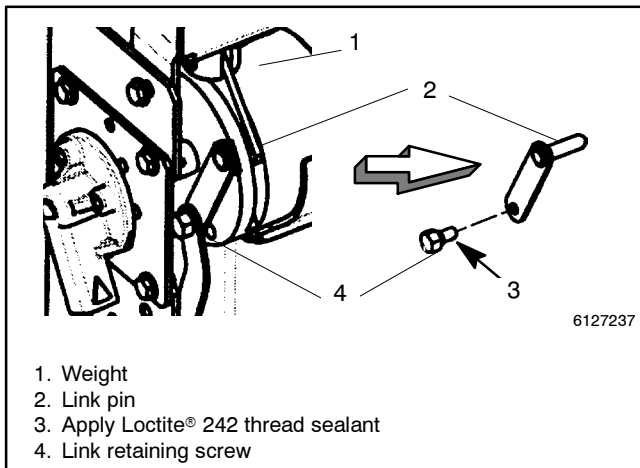

Figure 8-24 Retaining Screw and Link Pin
3. Remove the retaining screw and link pin from the weight. Use a 7/16 in. open-end or box wrench to remove the retaining screw from the left side of the weight. Then remove the link pin from the left side of the weight. See Figure 8-24.
9. Reinstall the link pin and screw it into the weight. Install the link pin into the left side of the weight (through the core link from the solenoid assembly). Apply Loctite® 242 sealant onto the threads of the 1/4-20 link retaining screw. Then install the screw through the control contact link and link pin into the left side of the weight. Use a 7/16 in. open-end or box wrench to tighten the retaining screw. There should be some play to allow movement of the control contact link. See Figure 8-24.